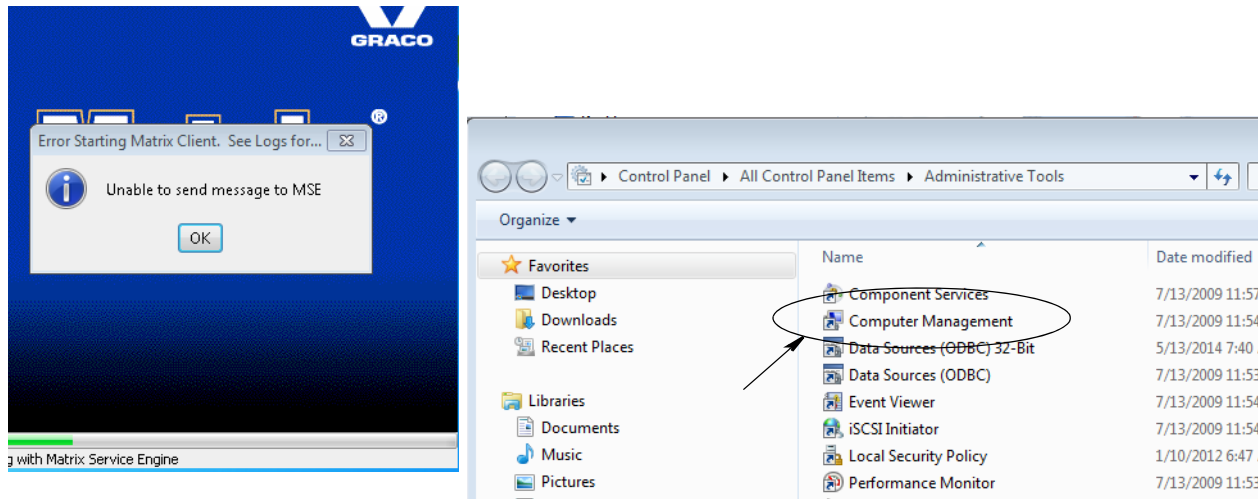

FIG. 202
- a. Access the control panel and select Administrative Tools. Double click on the Computer Management link (FIG. 202).